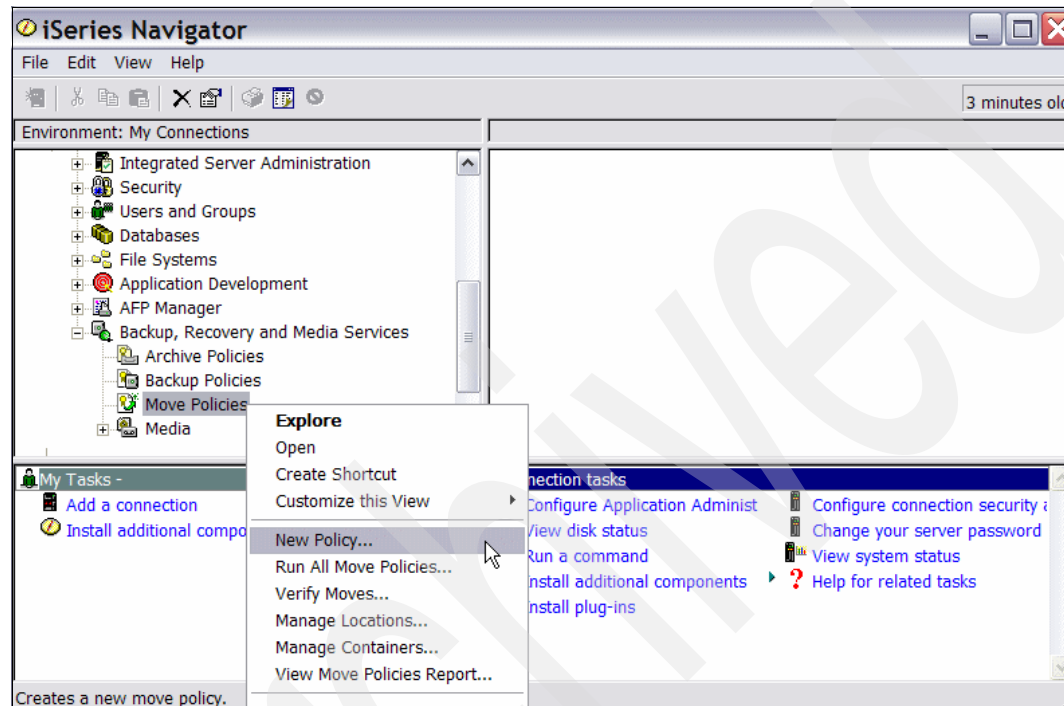

Figure 5-43 Domino with BRMS, move policy, new policy
1. Expand **Backup, Recovery and Media Services**, right-click **Move Policies**, and select **New Policy**, as shown in Figure 5-43.